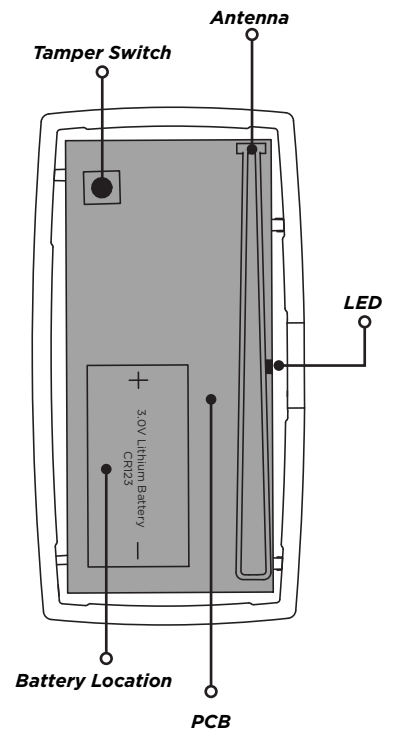

Figure 2: PCB Components
1. Insert the screwdriver in **Tab 1** and twist it clockwise as seen in Figure 2.